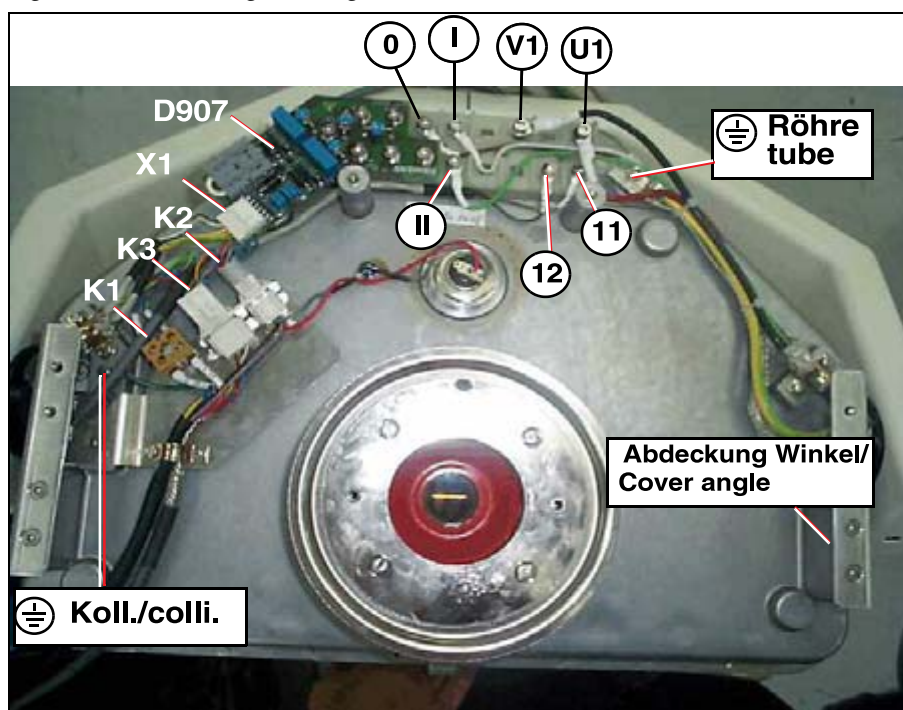

Fig. 56: Single tank connection
- Remove all the cables on the single tank (Fig. 56 / p. 65).
- Attach the bracket of the cover of the defective single tank to the new single tank (Fig. 56 / p. 65).
- Reconnect all cables to the single tank (Fig. 56 / p. 65).
- Connect all cables to the single tank (see (Fig. 56 / p. 65)).